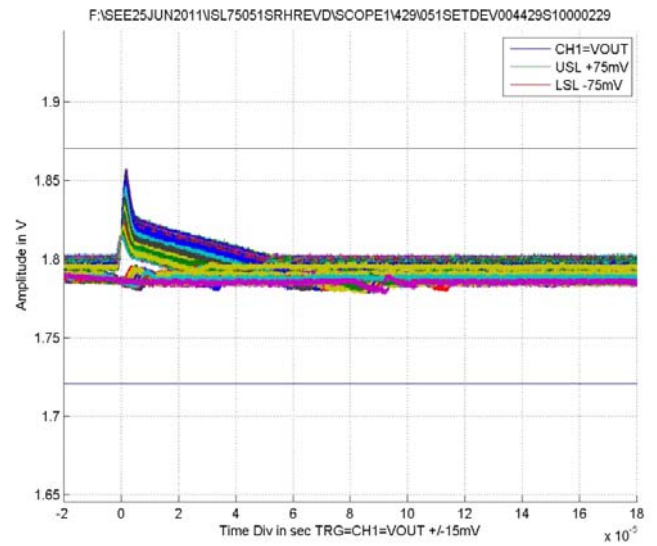

FIGURE 4. TYPICAL CAPTURE AT $V_{IN} = 2.2V$, RUN 429 (Note 8)
8. The horizontal axis time per division is 10μs except for Figures 4, 8, 12, 16, 20, and 24, which are at 20μs per division.